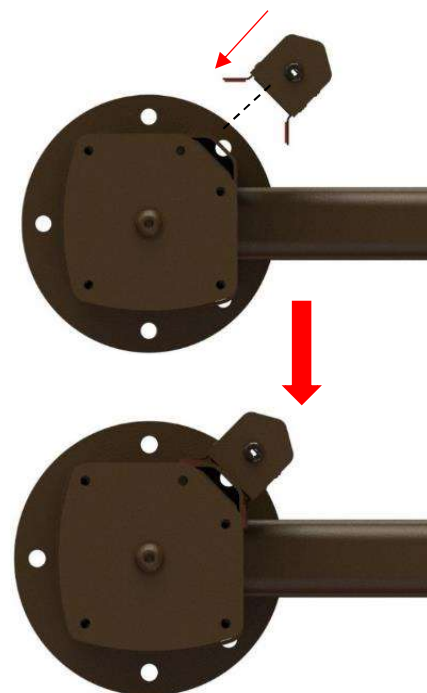
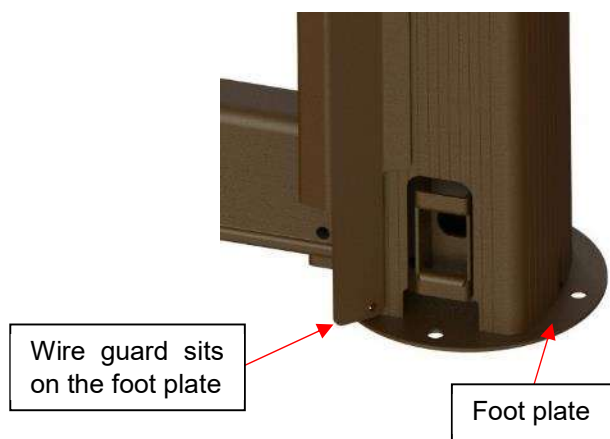

Figure 76
Figure 77
- 12) Align and position the bottom of the wire guard against the foot plate that lines up with the inner shell hole. (Figure 77)
- 13) Fit the wire guard on the corner of the post. **Ensure no wires are pinched and that the wire guard is well levelled before adhering it to the sleeve.** (Figure 76 and Figure 77)